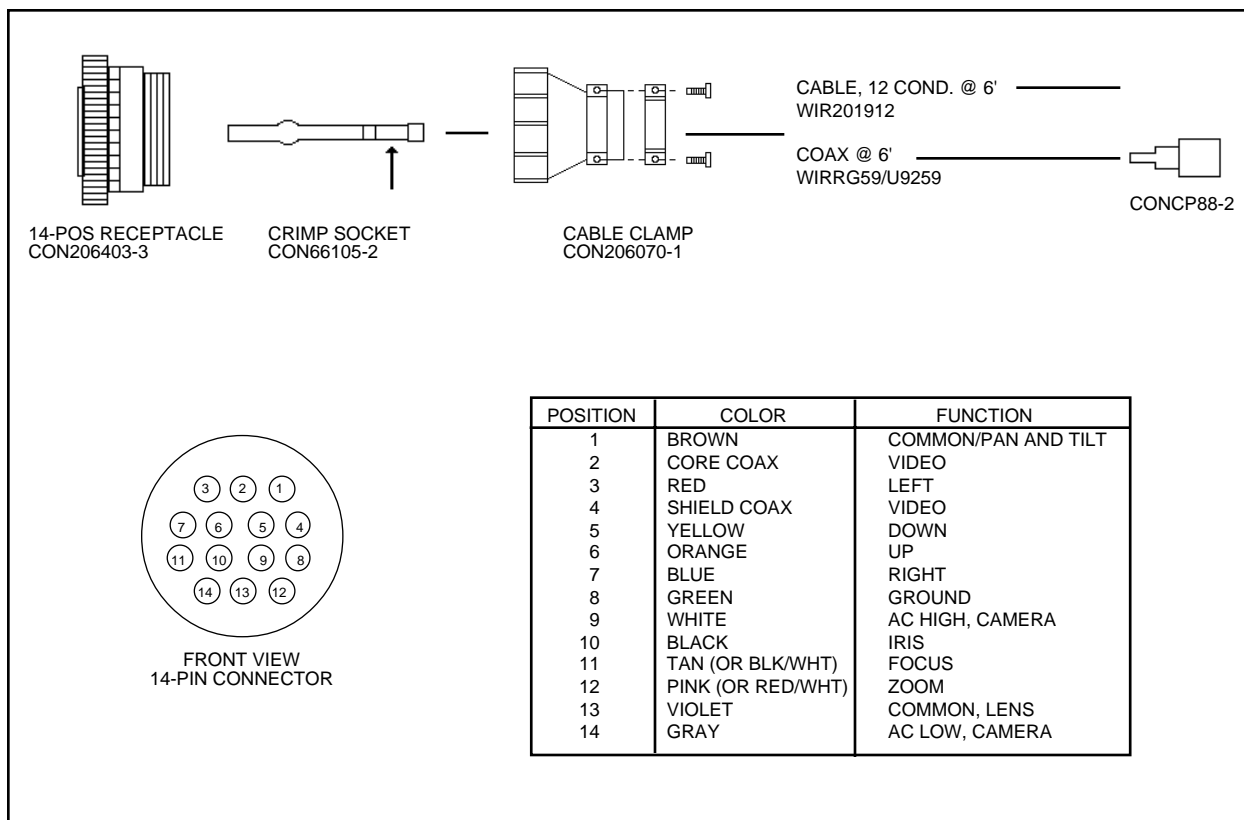

Figure 6. Mating Cable Assembly Configuration (non-PP Versions)
1. Slide the cable clamp (part A, item 1) over the cable with the threaded end facing the connector (item 5).
2. If the cable has a diameter less than 1/2 inch (1.3 cm), slide the rubber boot (item 2) over the end of the cable and press inside the cable clamp to form a good seal.
6. Slide part A of the cable clamp toward the connector and screw the parts together. Attach part B (item 1) onto part A and connect both parts with the screws provided.
8. For ease of installation, a mating cable assembly is supplied with the domes to extend the cable from the pan/tilt. Please refer to Figures 6 and 7 for wiring (pin locations and color codes).